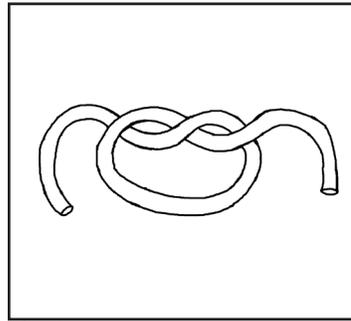

Fig. 2
1. Move the thread on the right side to the left, passing it under and through the thread on the left (see figure 2).